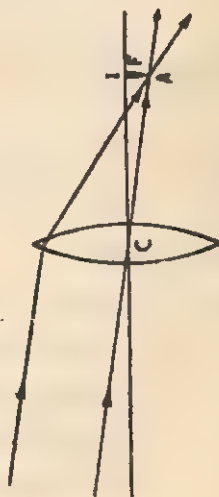

Fig. 11.19. Formation of image by a convex lens for different positions of the object OA.
**Procedure.** (1) Determine the focal length of the lens *approximately* by focusing a *sharp, clear and inverted* image of a distant object on a white paper. Let this focal length be  $f$ .
(2) Mount the lens in the clamp. Mount the clamp with lens on the central upright of an optical bench and the two needles on the remaining two uprights. Arrange the tips of the needles at the same vertical height as the centre of the lens. The **Principal Axis** of the lens should be parallel to the scale. Mark one of the needles as the object needle and the other as the image needle.
(3) Determine the *index corrections\** to be applied to  $u$  and  $v$  with the help of the knitting needle and the half-metre scale.
(4) Arrange the position of the object needle  $O$  at a distance greater than  $2f$  from the lens as shown in Fig. 11.19(e). Look from the other side of the lens along its principal axis near the end of the bench. If the setting is correct, an *inverted real* image  $I$  is seen. Now adjust the position of the second needle such that parallax\*\* between the image and the image needle is removed. Vertical position of the second needle is adjusted such that parallax is removed tip to tip of the image and the needle.
(5) Repeat the observations for different positions of the object needle with respect to the lens as shown in Fig. 11.19 ( $d, c, b, a, f$ ). Observe the nature and size of the image in each case.
**Result.** (A) **Nature and composition** of the image for different positions of the object with respect to the **Convex Lens** is illustrated along with the Fig. 11.19. (a) to (f).